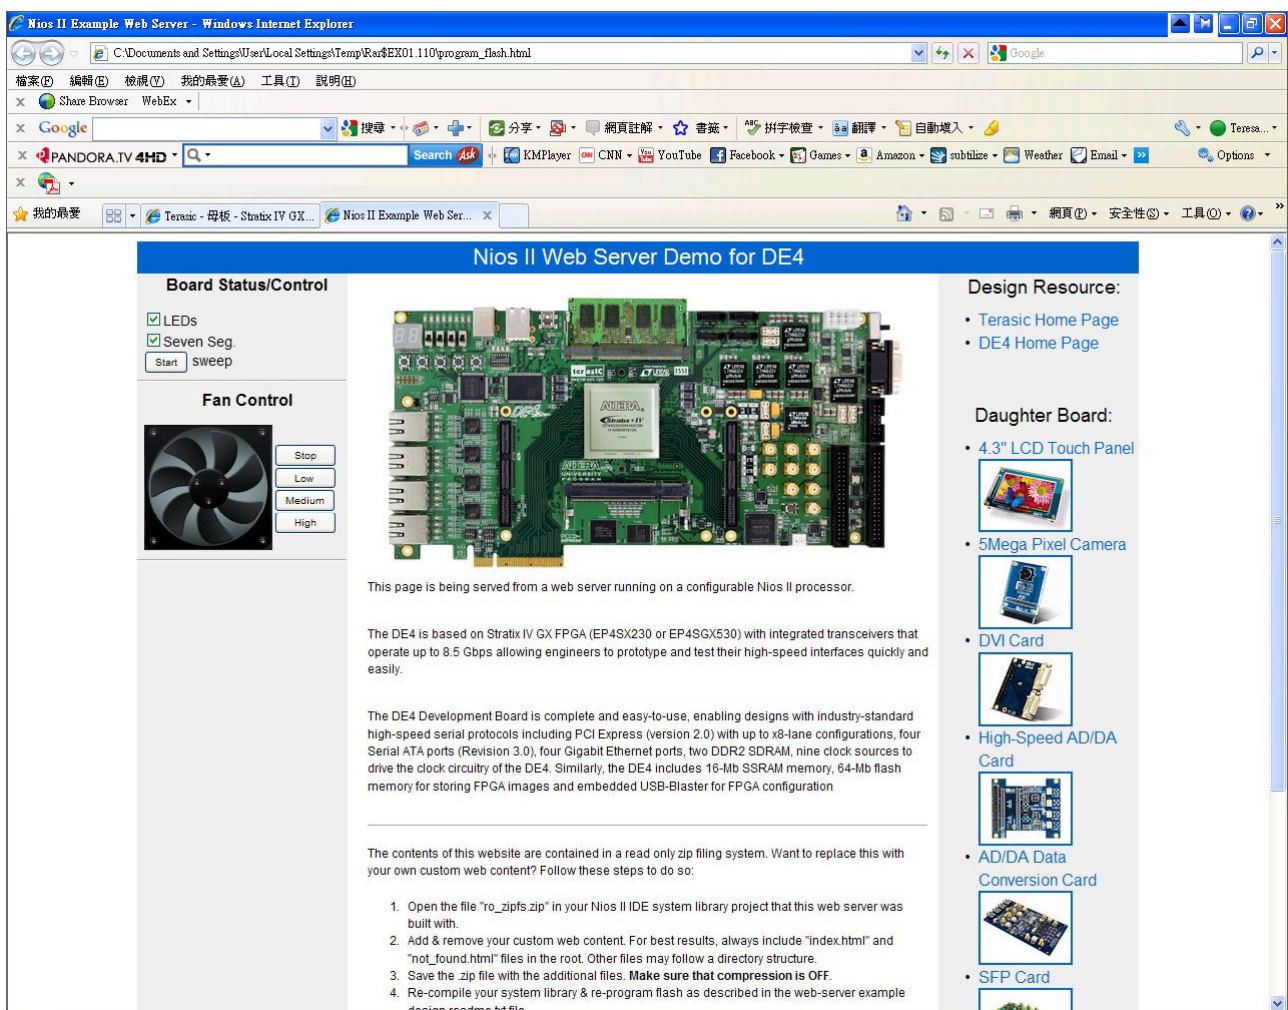

Figure 5–39 DE4 Webserver IE Window
- You will see the brand new DE4 web page on your computer illustrated in **Figure 5–39**.
- Make sure a SATA cable (provided in the DE4 package) is connected between SATA-host-A and SATA-device-A. Similarly a SATA cable is connected between SATA-host-B and SATA-device-B as shown in Figure 5–40.